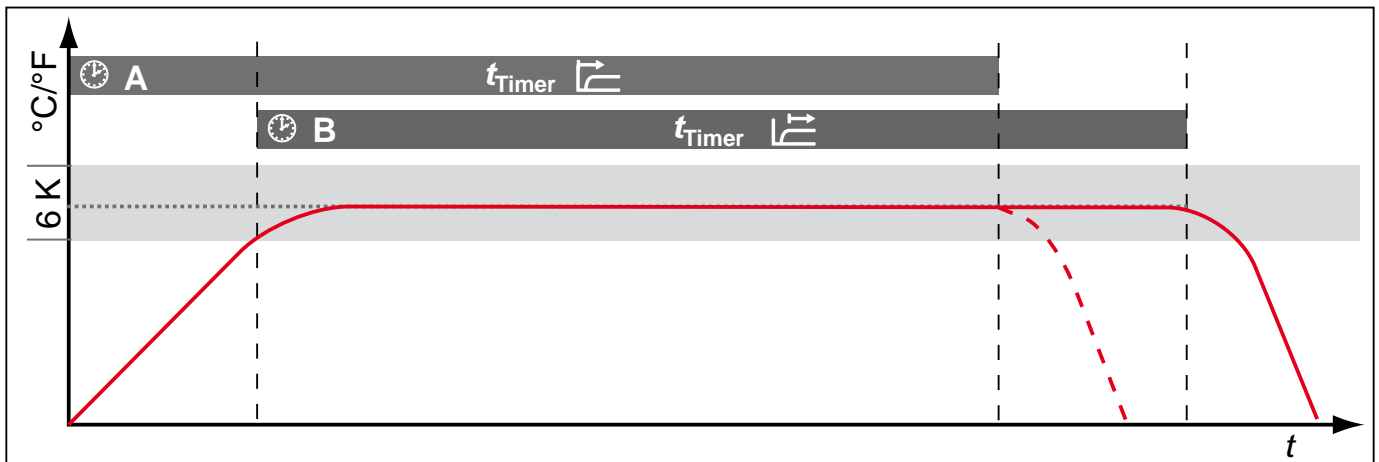

Fig. 26 Timer mode
Here, you can choose whether the digital backwards counter with target time setting (see page 29, timer) should run setpoint-dependent or not – this determines whether the timer should not start until a tolerance band of  $\pm 3$  K around the set temperature is reached (Fig. 26, B) or whether it should start right after activation (A).